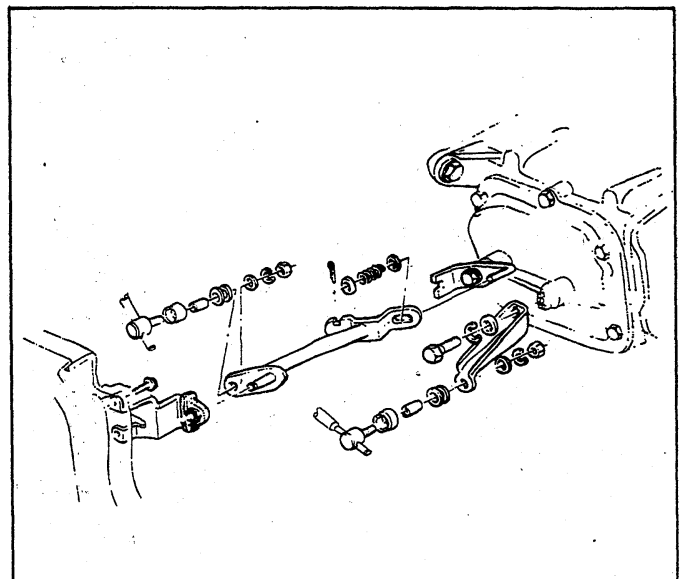

Fig. 4A - Chevrolet 2-3 Shift Lever Cordon Shaft
5. Connect and adjust shift rods at transmission levers and cordon shaft to 2nd and 3rd lever on Chevrolet Models. (Fig. 4A)